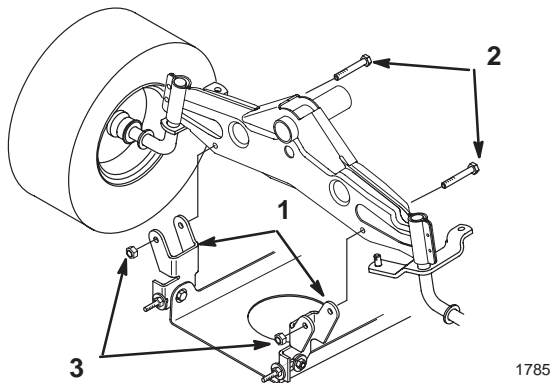

Figure 43
4. Install the mower pivot mount brackets onto the front axle with the bolts and locknuts (Fig. 43).